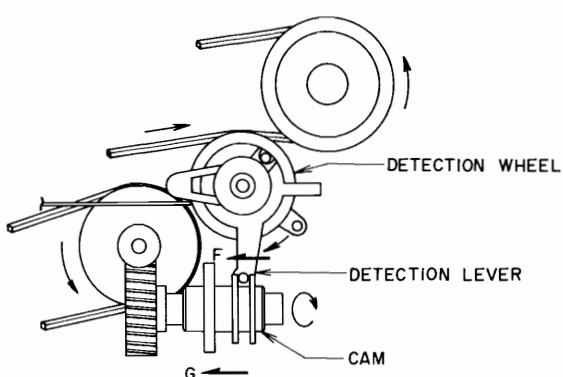

Fig. 5
- Because the detection wheel is turning clockwise as indicated in Fig. 5, friction between the detection wheel and the detection lever causes constant pressure to be exerted on the detection lever in the direction of the arrow F, while the detection lever exerts force F on the cam in the direction of the arrow G.
- 3) Fig. 6(b) illustrates the motion of the pawl mounted on the cam with the plunger viewed from above. Since force is applied to the pawl in the direction of G as indicated in Fig. 5, the pawl rotates on the left hand of the plunger, in order of A, B and C.
- 4) When the tape transport stops, the detection wheel driven by the counter belt stops rotating and the force in the direction of the arrow G which was exerted on the cam as shown in Fig. 5 ceases. In this case, the motor continues rotating, keeping the worm pulley turning. Therefore, when the cam continues to rotate with the pawl shifted from A to B position, the pawl does not move in the direction of C but turns in the center of the plunger as shown in Fig. 6(b).